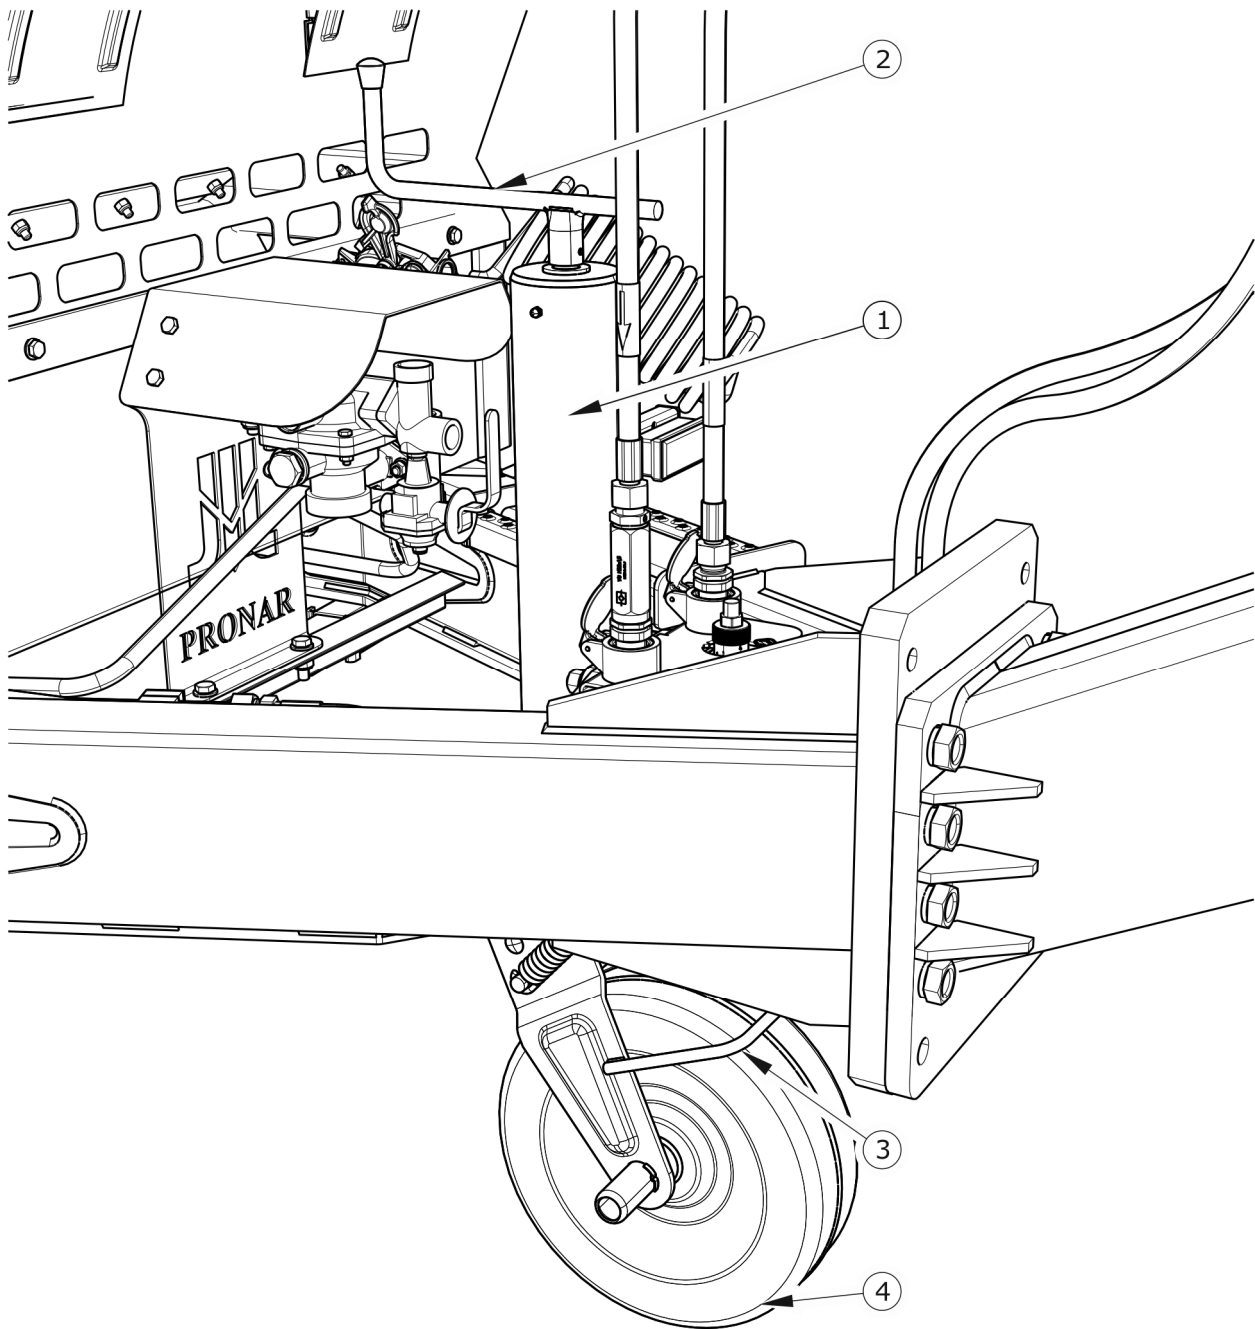

FIGURE 4.1 Spreader support
- ➔ Turn the crank (2) (Figure 4.1) to raise the support wheel.
- ➔ Press the support pedal (4) and, while holding the wheel (3), place it in the driving position.